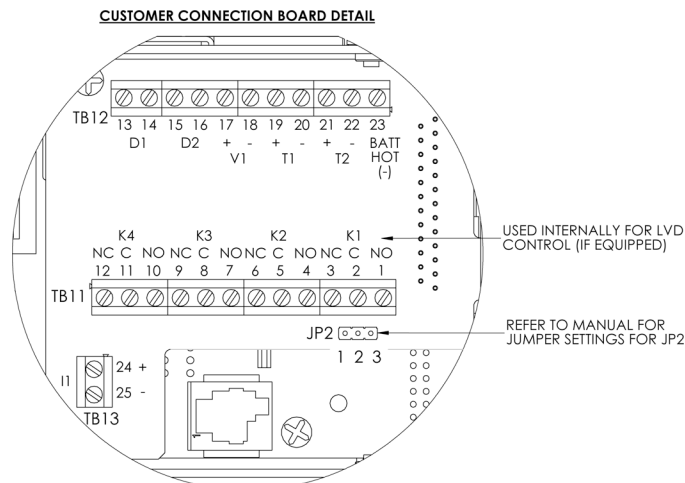

Figure 11–Location of LVD bypass jumper
- Locate JP2 on the back of CXCI system shelf (Figure 11)
- Locate JP2 on the back of CXCI/CXCI+ system shelf (Figure 11)